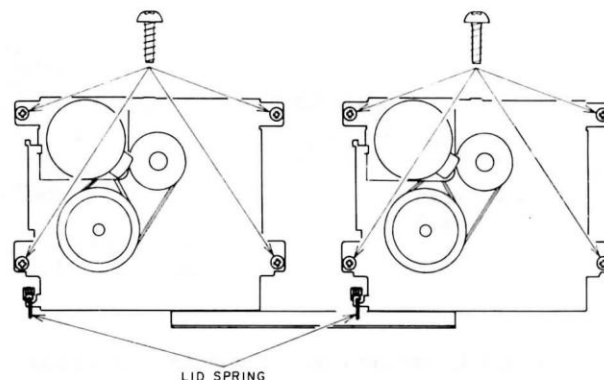

Fig. 4-2
- 4) Remove POWER PCB FIXATION SCREWS and pull out the POWER PCB to the arrow (A) direction.
- 6) Remove the LID SPRINGS and SCREWS (A) to (H) (Refer to Fig 4-2). Then remove the MECHANICAL BLOCK.